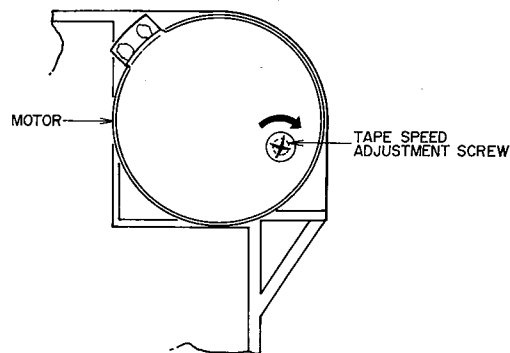

Fig. 21
6. TAPE SPEED ADJUSTMENT (Refer to Fig. 21)